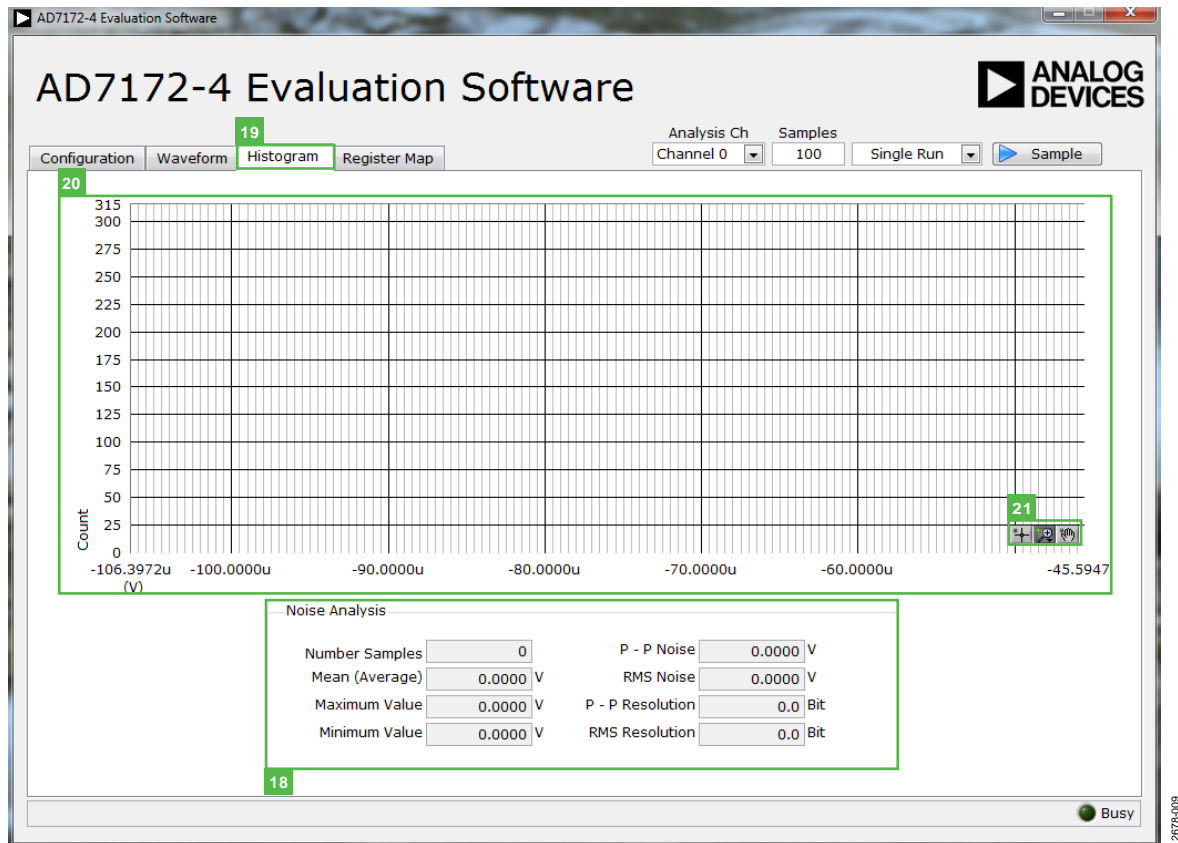

Figure 9. Histogram Tab of the AD7172-4 Evaluation Software
See Figure 9 for the Histogram (19) tab.
The data histogram graph (20) shows the number of times each sample of the ADC output occurs. The control toolbar (21) in the histogram graph allows you to zoom in on the data (see Figure 9). Click the x-axis and y-axis to change the scales on the graph (see Figure 9).